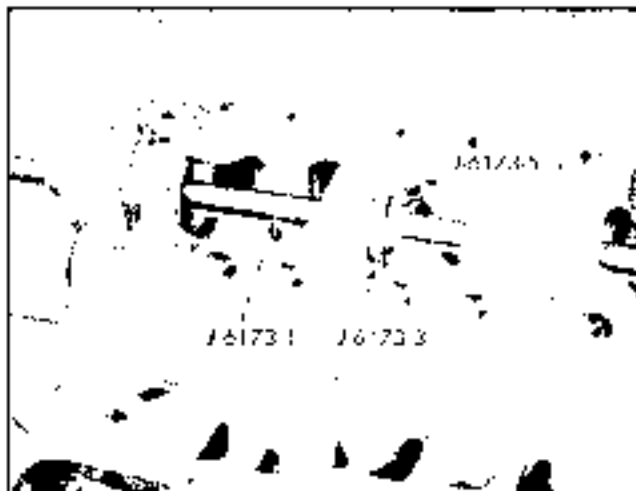

Fig. 6-98 Removing Camshaft Bearing
5. Slip key J 6073-5 into notches in shaft behind bearing to be removed (Fig. 6-98).